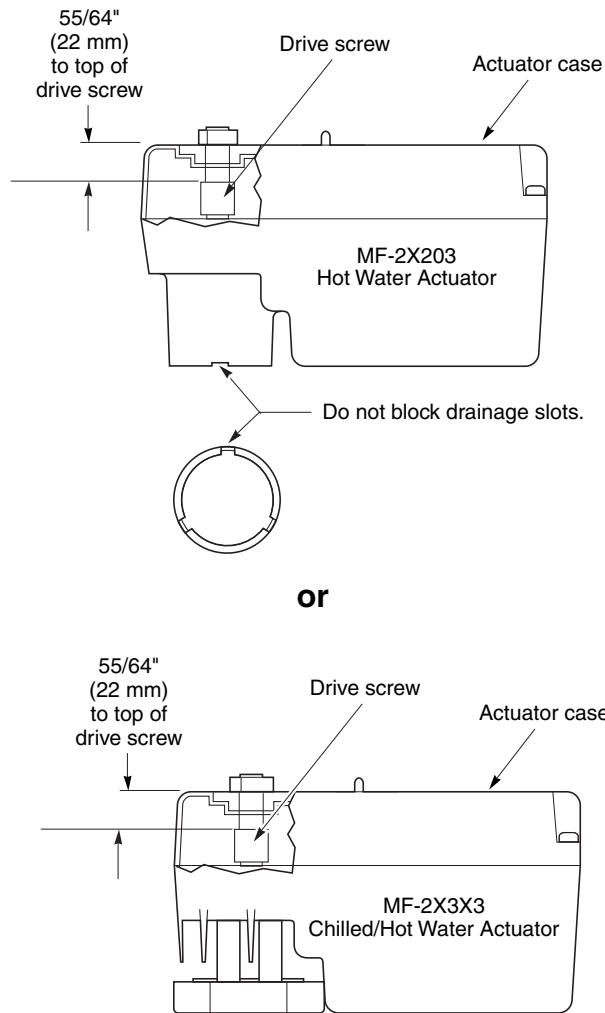

Figure-12 Position Drive Screw Before Mounting Actuator.
- Confirm that the drive screw for the actuator model being mounted is the required distance from the top of the actuator case. See Figure-12. If the drive screw is not in position, insert a tapered pencil or pen into the drive screw and rotate.